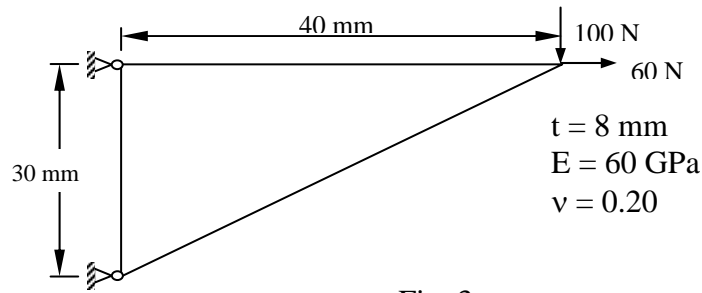

Fig. 3
4. For the two-dimensional loaded plate shown in fig. 3 determine the displacements of nodes 1 and 2 and the element stresses using plane stress condition. [16]